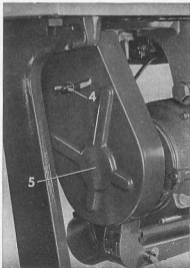

Fig. 32
**Belt guard below tabletop (Fig. 32)**